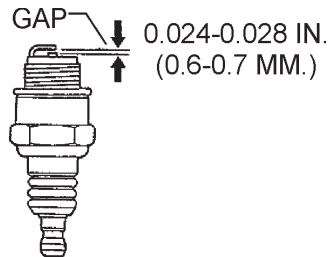

Figure 24. Spark Plug Gap
- Remove and clean the spark plug (Figure 24), then adjust the spark gap to 0.024 ~0.028 inch (0.6~0.7 mm). This unit has electronic ignition, which requires no adjustments.